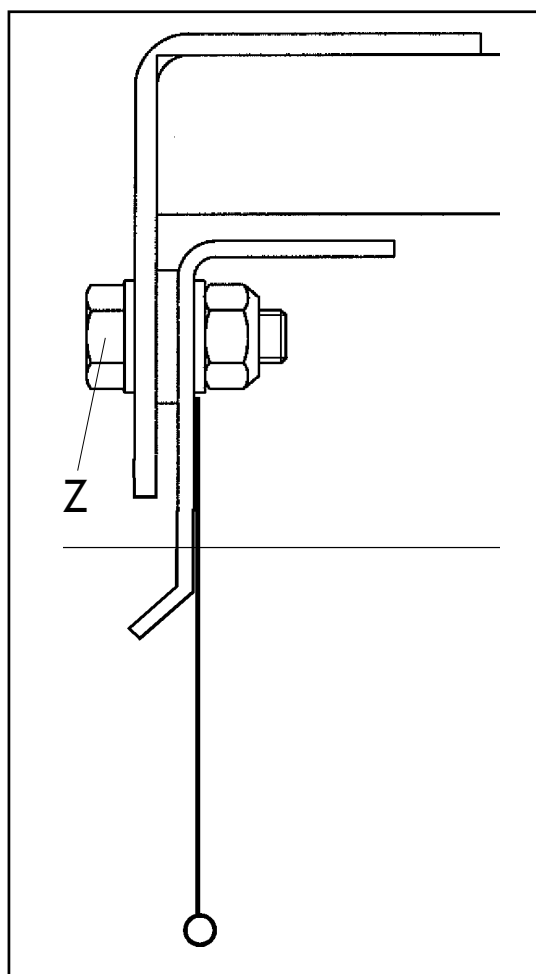

Figure 4-5
- In order to bring the swath sheet into the required working position, just slightly loosen the screws "Z" with the SW 17 (figure 4-5)
- Tighten the screws "Z" (figure 4-5)